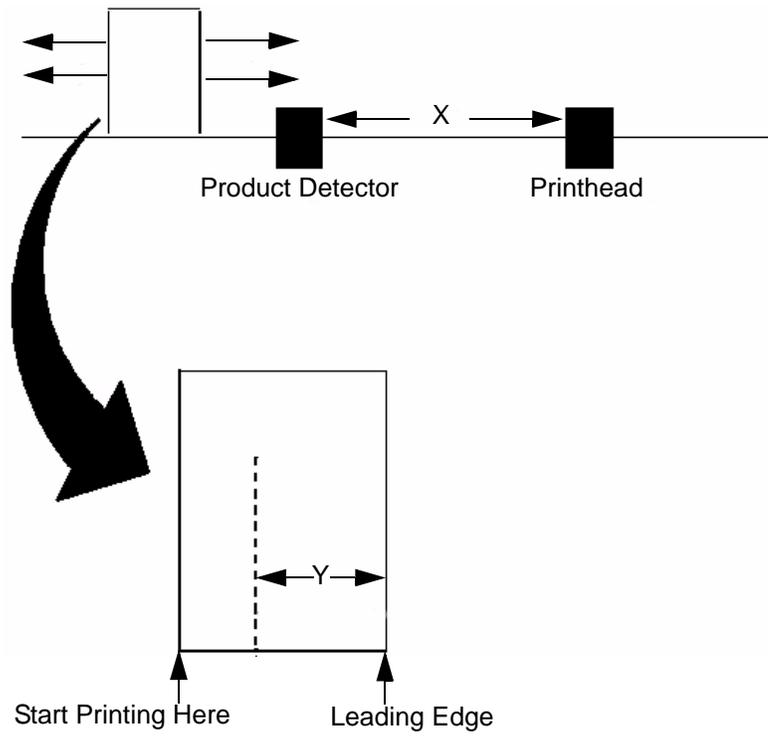

Figure 6-66: Delaying the Printing of a Message Example
**Note:** To set the print delay, measure the distance from the product detector to the printhead ( $x$ ). Next, measure the distance from the leading edge of the product to the point on the product from where you start the printing ( $y$ ). Add  $x$  and  $y$  values. The value is the delay value you must enter. Refer to Figure 6-66. For the correct operation of the delay, set the correct encoder values.